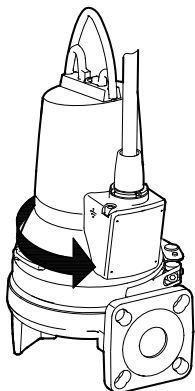

Fig. 10 Jerk direction
3. If connected correctly, the pump will jerk in the opposite direction of the direction of rotation. See fig. 10.